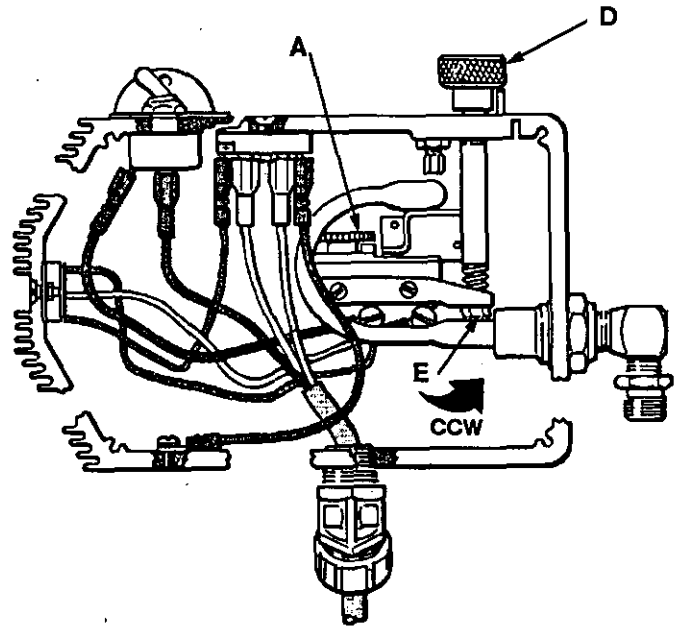

Fig 21-1
3. With the gun safety latch engaged, start the engine (only). Use of 3/8" ignition wrench to turn the pressure adjusting nut (E) **clockwise** two full turns. See Fig 21-1. Turn the pressure control knob (D) to the minimum setting. Turn the sprayer switch ON.